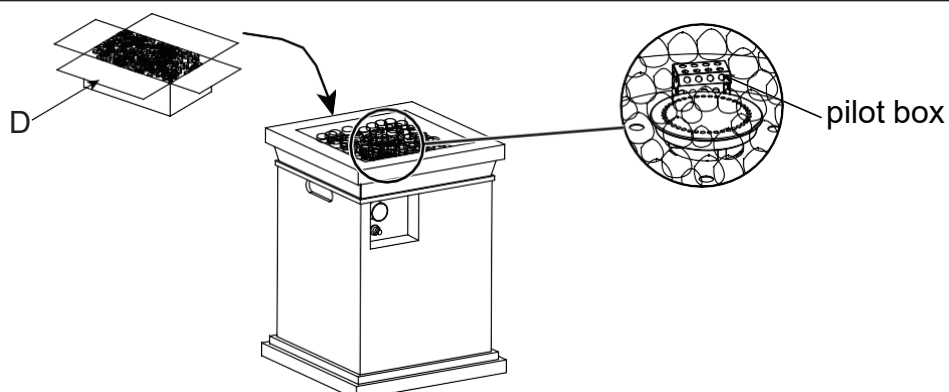

Figure 2
- Open the box of lava rocks, put the lava rocks (D) into the fire bowl of the fire table (A) (See Figure 2). A gas fire pit requires 5.51 lbs lava rocks.